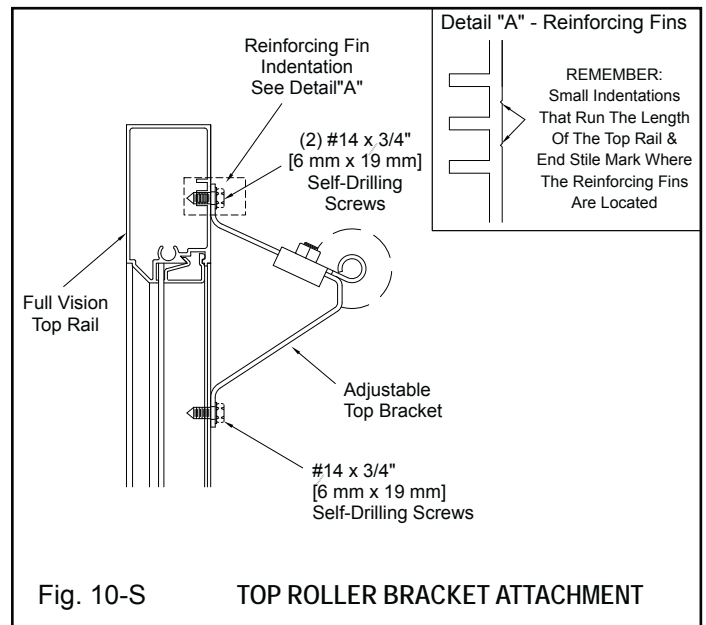

Fig. 10-S
Remember: The small indentations that run the length of the top rail and end stile mark where the reinforcing fins are located. (Fig. 10-S)
Step 3: Horizontal Track. Attach horizontal track to vertical angle using two 1/4" x 5/8" [6 mm x 16 mm] track bolts & flange nuts. Attach extension plate to horizontal angle then attach to vertical angle using 3/8" x 3/4" [10 mm x 19 mm] carriage bolts & flange nuts. (Fig. 10-T) Temporarily set back hangs for horizontal track or rig a temporary rope to support back of horizontal track.
Step 5: Spring Installation. Install end bearing plates as shown. (Fig. 10-T) Refer to "Spring Installation" for additional instruction.